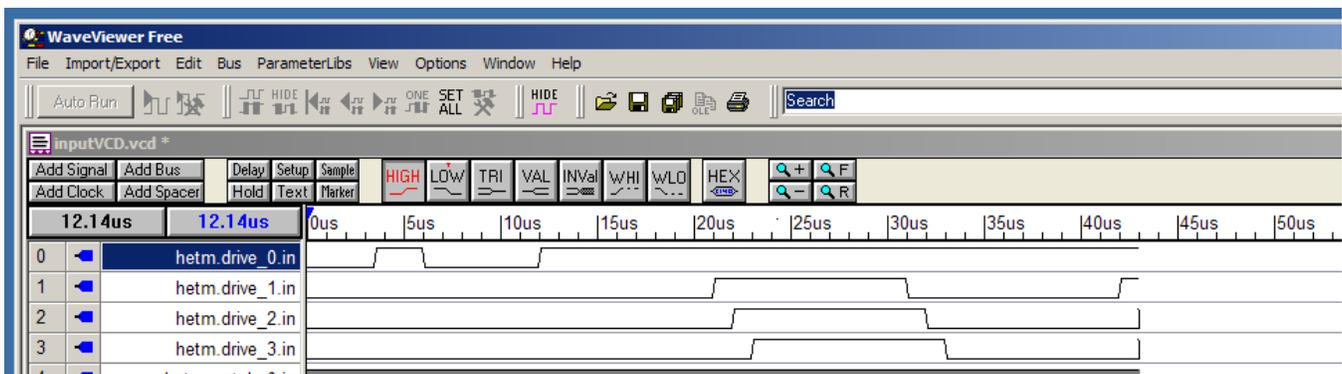

Figure 56. VCD File Used for Stimulus by Tutorial 7
7. Open the *inputVCD.vcd* file directly in Waveviewer Free and compare the stimulus with what you saw during your simulation. They match, however, note that in the VCD file, the signals that are being driven are shown individually rather than as a bus. Figure 56 shows the VCD file as viewed in Synptacad.